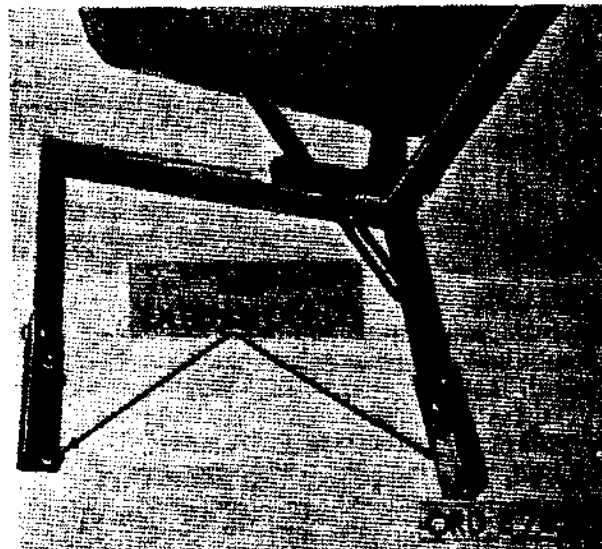
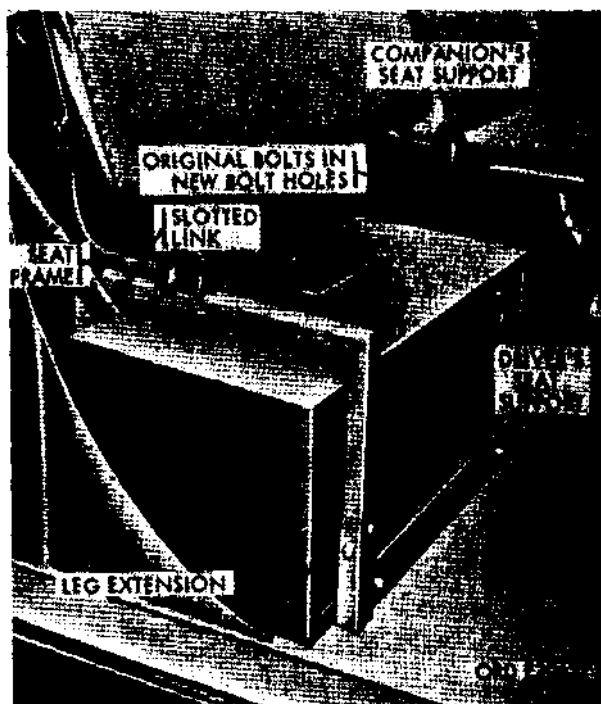

Figure 715. Installing companion seat leg extension.
Figure 716. Companion seat installed.
- (1) Secure a leg extension to both right hand legs of the companion seat, using two 1/4-20x3/4 screws MS 96906-35291-6, lockwashers MS 96906-35337-25, and nuts MS 96906-35690-405 (fig. 715).
- (2) Place the seat frame in position and secure the leg extensions to the floor panel, using two original 3/8 - 16x1 screws and internal-tooth lockwashers.
- (3) Secure companion seat support to driver seat support, using four original 5/16-18x3/4 screws, washers, and locknuts through the lower four holes in the seat support (fig. 716).
- (4) Remove slotted link (fig. 716).